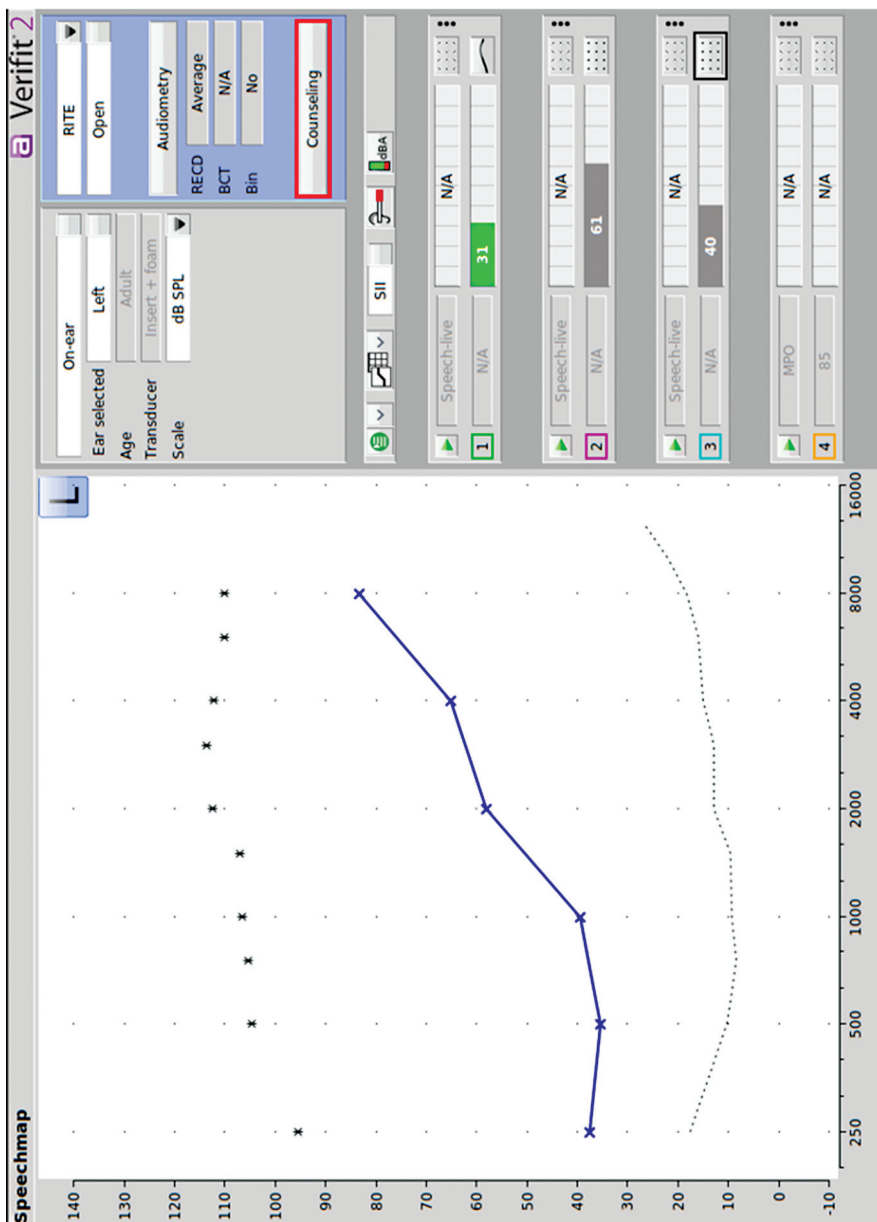

Figure 12 Select the counseling option.
5. Click the **Counseling** button (Figure 12). In this screen, there are a variety of different tools that can be used for counseling purposes—for both your patients and their loved ones.